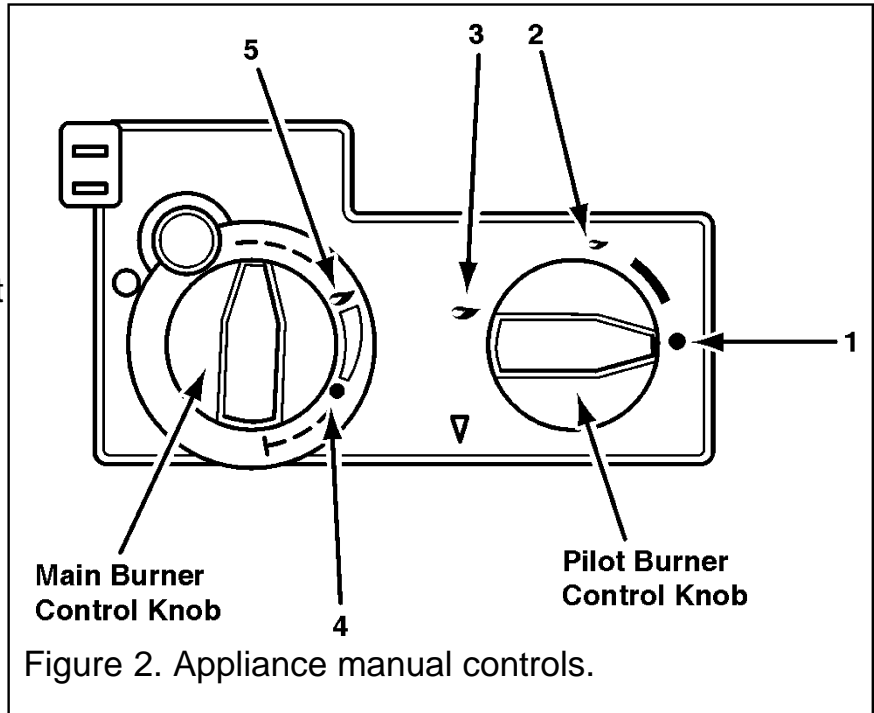

Figure 2. Appliance manual controls.
1. Ensure that the pilot burner control knob is in the OFF position (Number 1 in figure 2).
2. Depress the pilot burner control knob and turn anti-clockwise to the ignition position (Number 2 in figure 2) to activate the piezo ignition system. A 'click' will be heard and the pilot should light.
1. Once the pilot light is established, light the main burner by turning the pilot burner control knob anti-clockwise to the "main burner on" position (Number 3 in figure 2), and by then turning the main burner control knob to the high position (Number 5 in figure 2).
2. Check the full range of heat settings by turning the main burner control knob slowly between the high position and the low position (Number 4 in figure 2).
Turn the main burner control knob fully clockwise. Alternatively turn the pilot burner control knob clockwise to the ignition position (2). Refer to figure 2.
Rotate the pilot/burner control knob clockwise to position 1, as shown in figure 2.
3. In order to disable the handset, but still leave the pilot alight, turn the pilot burner control knob to the ignition position (Number 2 in figure 2).
4. Turn the fire off by rotating the pilot burner control knob to the OFF position (Number 1 in figure 2).